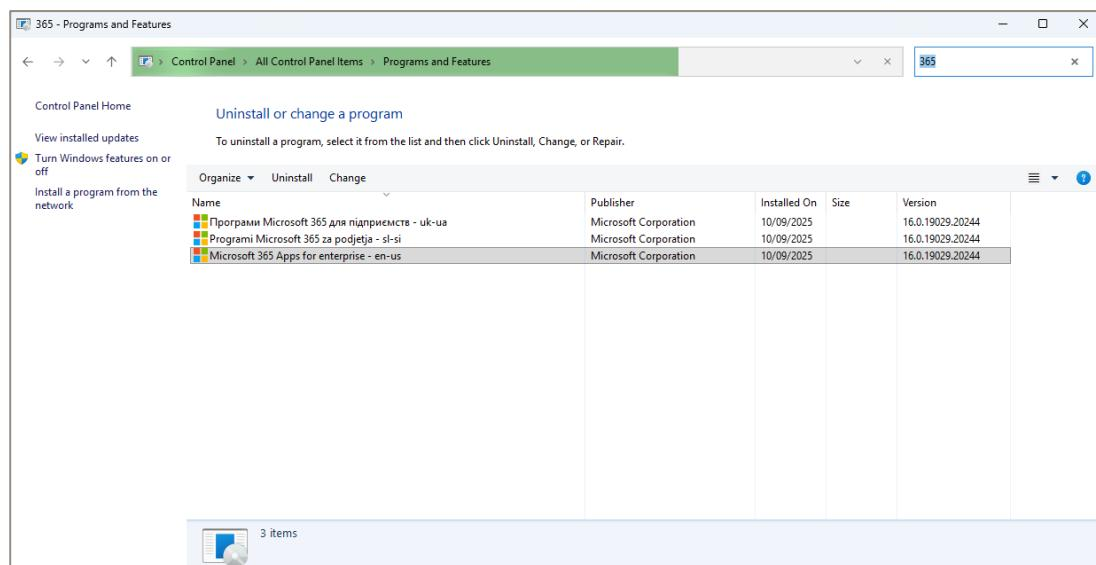

Figure 32: Step 01 - Access Control Panel + Search for Office /365
1. Access Control Panel -> Programs and Features -> Search for Office / 365 in the search toolbox in the top right hand corner. (see Figure 32)